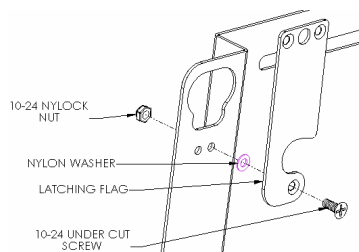

Figure 2
1. Attach latching the flag to the mount using the 10-24 Phillips flat head screw, Nylon washer, and Nylock nut (see Figure 2). Tighten until friction will hold the flag in place.